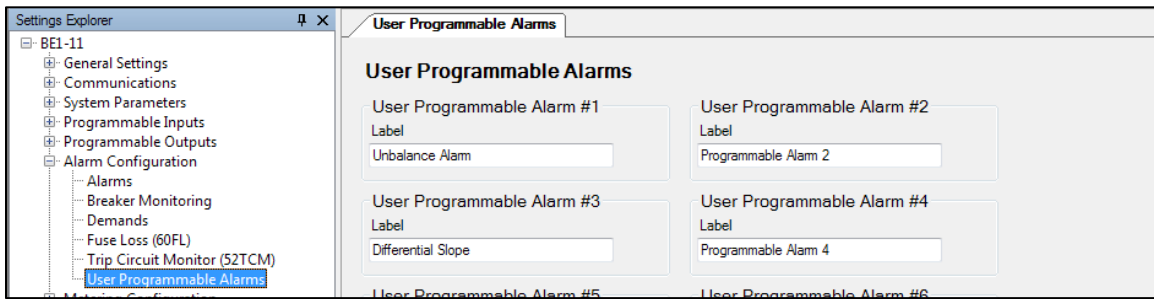
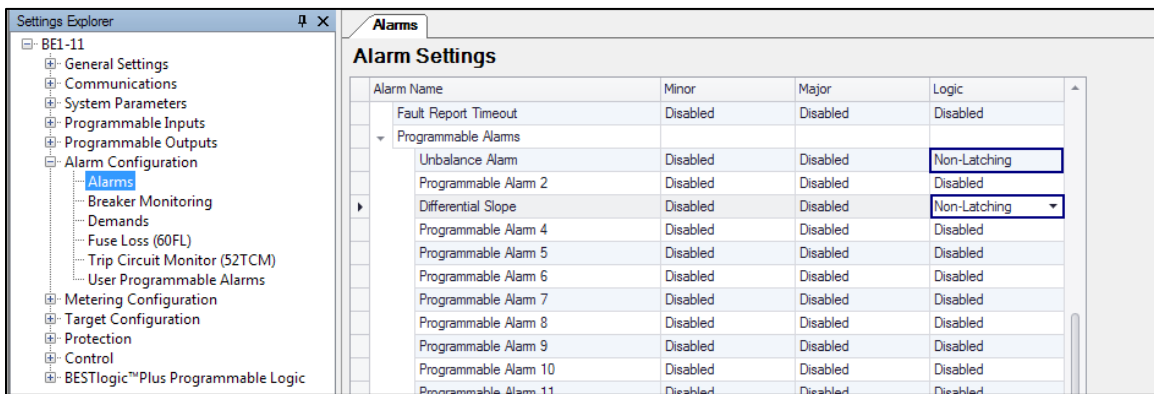

Figure 84-50. User Programmable Alarms Screen
Figure 84-51. Alarm Settings Screen
User Programmable Alarm 1 is used for reporting a minor alarm, which indicates the unbalance alarm. Use the Settings Explorer to navigate to Alarm Configuration, User Programmable Alarms, and name User Programmable Alarm 1 to “Unbalance Alarm” as shown in Figure 84-50.
Navigate to Alarm Configuration, Alarms, and enable Programmable Alarm 1 as a non-latching minor alarm as shown in Figure 84-51. This alarm will show in the sequence of events and alarm reporting as “Unbalance Alarm”.
Figure 84-50 and Figure 84-51 also show the Differential Alarm programmed at the end of the Current Differential (87) subsection.